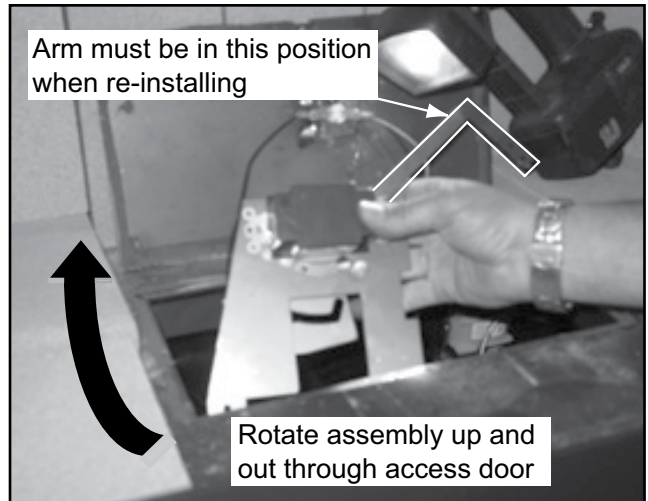
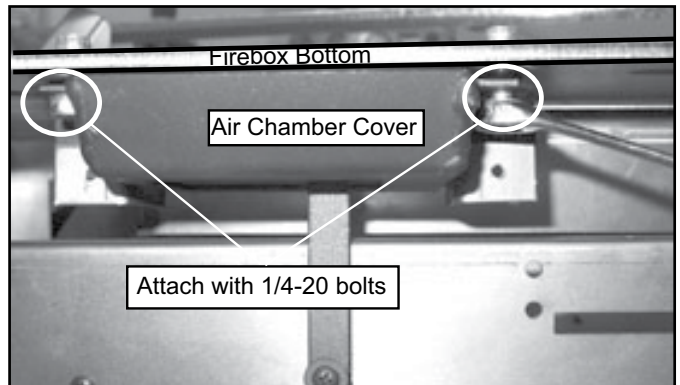

Figure 4.18
Figure 4.19
- Remove old air chamber cover. Place the cover under the bottom of the firebox. Using a 7/16 wrench attach the (2) 1/4-20 bolts as shown in Figure 4.19. Insert the new timer assembly into the access door with the back side towards you. Please note the correct position of the linkage lower arm in Figure 4.18
- After re-installing the timer assembly through the fire-box access door, re-attach the timer assembly to the air chamber cover using a Phillips head screw driver. Figure 4.18. (previous page)